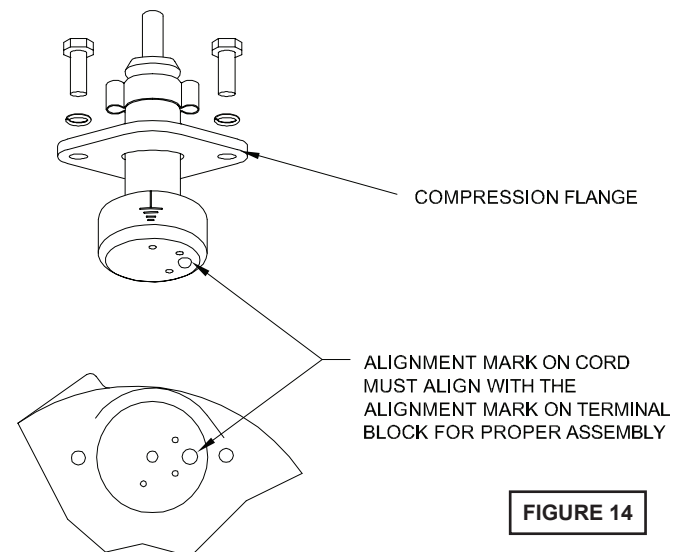

FIGURE 14
Place socket head cap screws (47) through seal plate (5) into motor housing (6) and torque to 60 in-lbs. Reconnect motor and optional control leads to the underside of the terminal block(s) (21), (54 optional) as shown in Figure 14. Note that the pins are numbered underneath the terminal block. Place o-ring (20) into groove in terminal block and lubricate with dielectric oil. Press the terminal block (21) into the housing so it seats completely below the snap ring groove. Place snap ring (19) into groove in cord entry bore of housing. Repeat terminal block installation for control cable, if equipped.